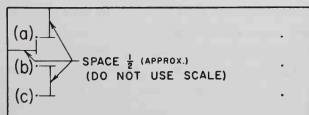

Fig. 2-2. Layout for section A, Plate No. 4.
3. In section A, sketch three horizontal lines lightly between the points, as shown in Fig. 2-2. Do not darken these lines.